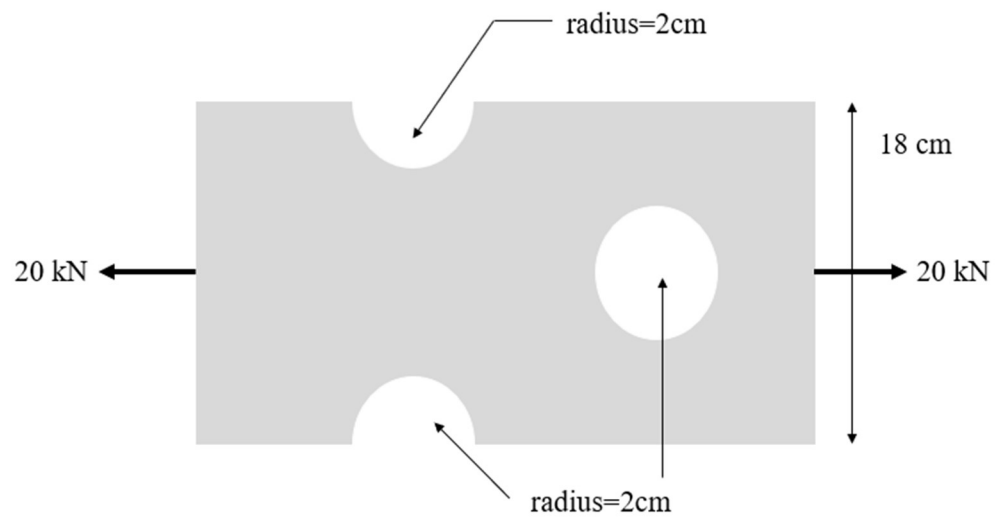

Fig. 2
- d) The aluminium bar shown in **Fig. 2** is subjected to a normal force of 20 kN. Calculate the actual normal stress at the notch and at the hole if the thickness of the bar is 3 cm.